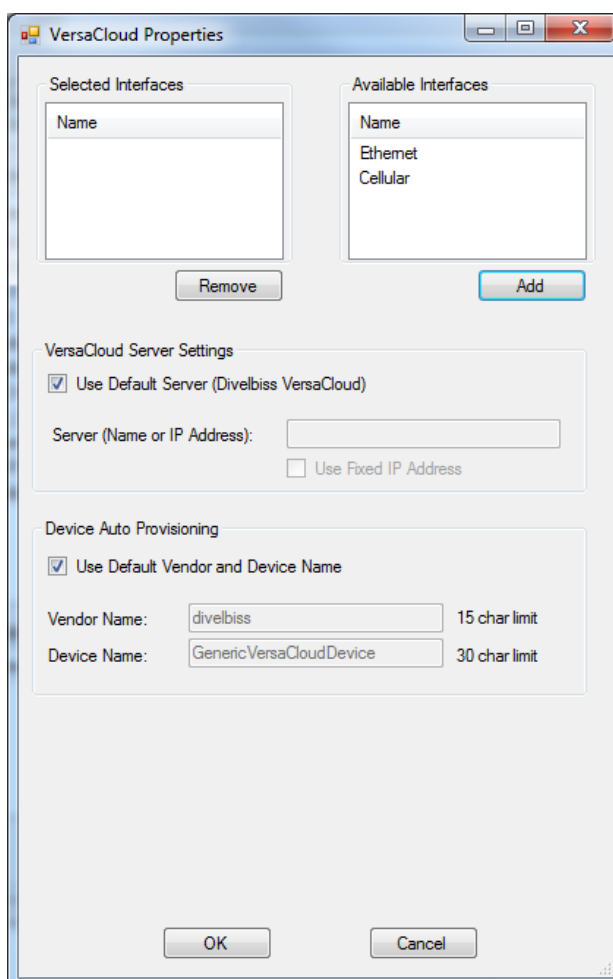

Figure 2-15 - VersaCloud Properties
4. Click **OK**. The **VersaCloud Properties** Window will open. Refer to Figure 2-15. This window is used to select the interface (communications method) between the P-Series Bear Bones controller / expansion board and the VersaCloud M2M Portal (Cloud server). The **Available Interfaces Pane** and the **Selected Interfaces Pane** are used for the selection.